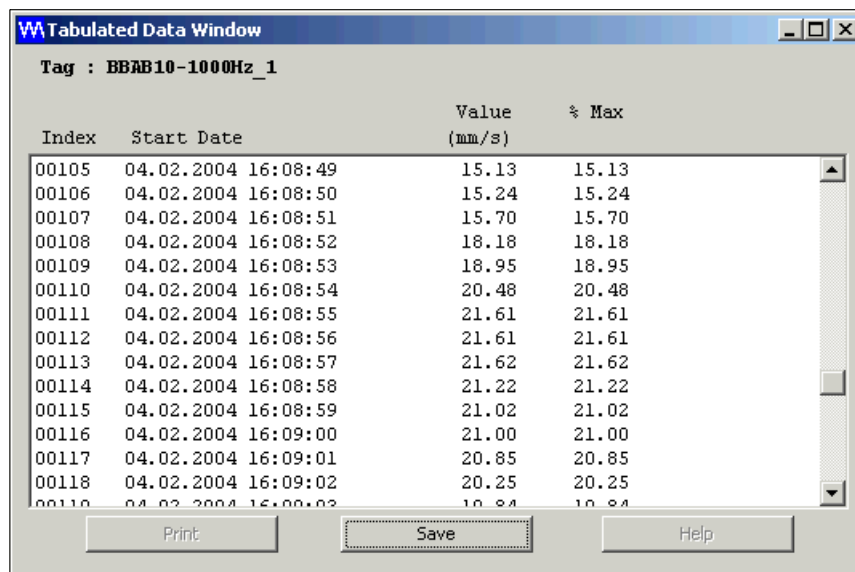

Figure 7-16: Tabulated Data Window
- You can present the strip charts displayed in the Machine Outputs window in tabular form by selecting the **Tabulate** command from the **Data** drop-down menu. You must first freeze the display by selecting **Freeze** from the **Options** drop-down menu. A Tabulated Data window resembling that shown in Figure 7-16 appears. This shows the acquisition time and the value recorded. The figure in the **% Max** column expresses the measured value as a percentage of the FSD. To display tabular data for another displayed signal, simply click the name of the signal (for example BBAB10-1000Hz\_4) from the list of names appearing at the bottom of the Machine Outputs window. If there are many points stored for a machine, the tabulated display can take a long time. To reduce the waiting time, define a lower value for the **Max Data Points** field on the General Info tab of the Machine window. See 5.3 Managing machines.
- In the **Options** drop-down menu, the **Freeze** command allows the currently displayed strip charts to be frozen. This operation is necessary before displaying data in tabular form (Figure 7-16), or performing sizing, repositioning and zooming operations (see 7.3.3 Sizing, repositioning and zooming). If the **Freeze** command is selected, the check mark can be cleared and Freeze turned off by select this command again.